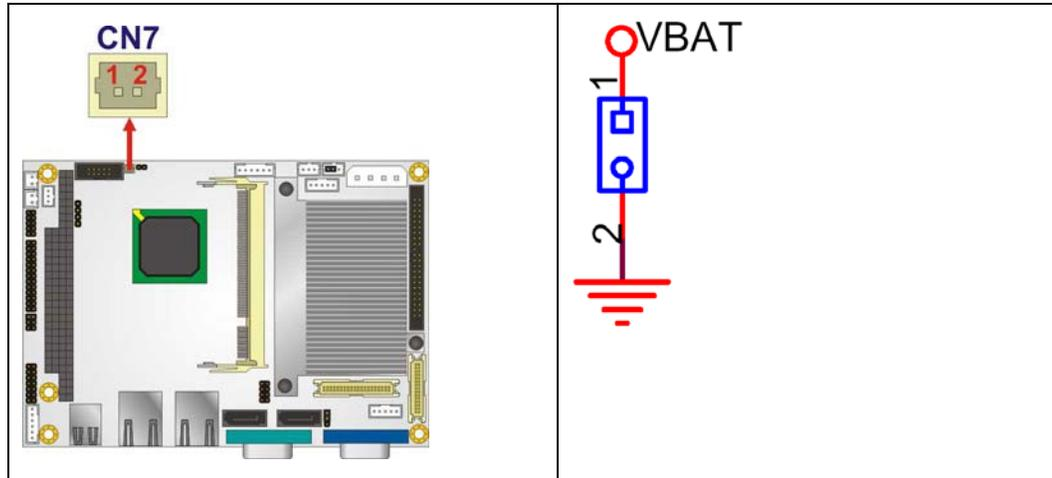

Figure 4-8: Battery Connector Location
- CN Location:** See **Figure 4-8**